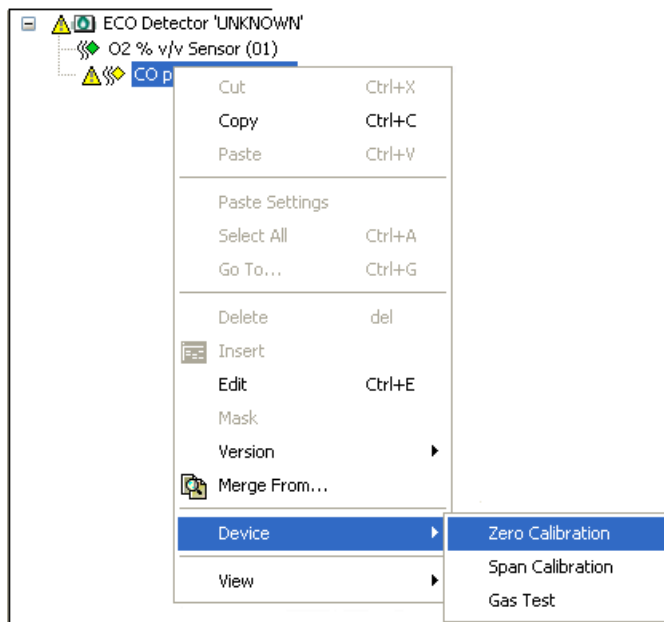

Figure 6-10: Zero and Span Calibration Menu Option
- Right click on the sensor to be calibrated in the detector overview window. A menu will pop-up as shown in Figure 6-10